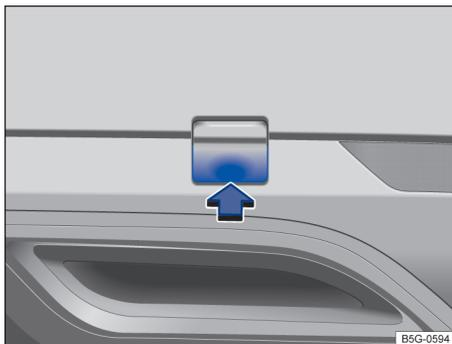

Fig. 162 In the right rear bumper: Removing the cover.
- Push on the cover at the bottom marking → fig. 162 (arrow) so that it pops out.